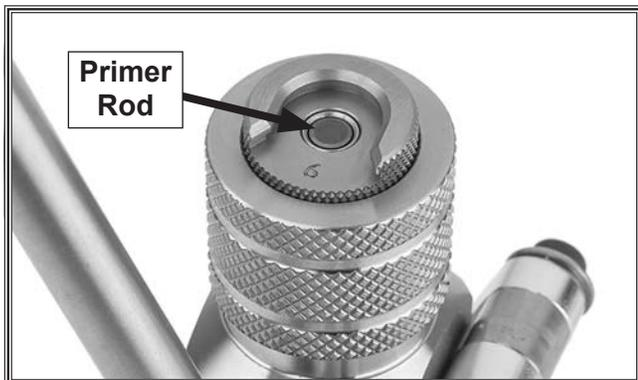

Figure 5. Rod flush with top of sleeve.
- Raise primer rod by lowering handle (Part #21) all the way and turning knurled cap clockwise until primer rod is flush with top of sleeve (see **Figure 5**).
2. Pull handle forward and make sure top of primer rod is flush with end of sleeve (see **Figure 5**).